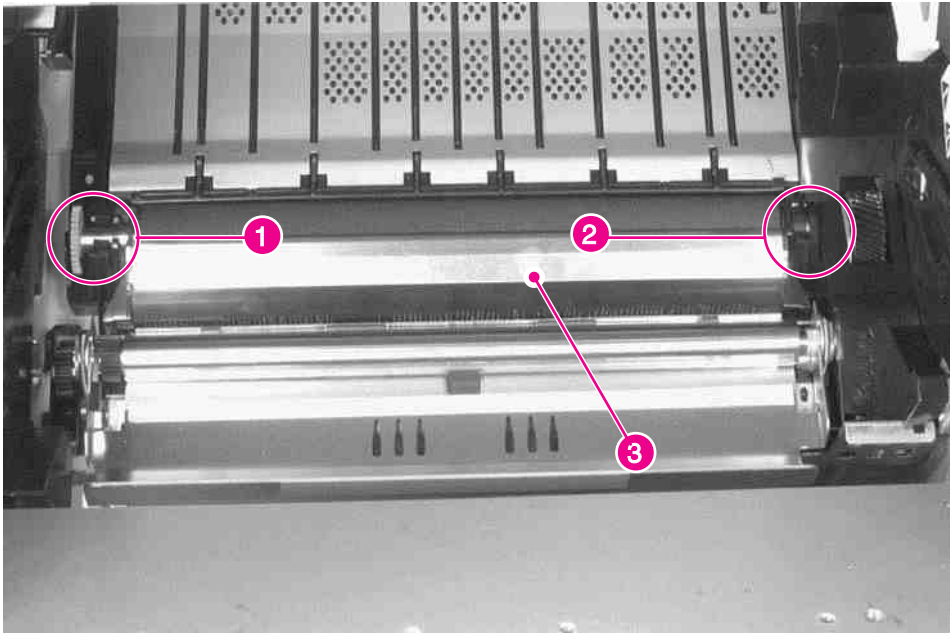

Figure 6-60 **Transfer Roller Assembly**
- 2 Grasp the gear (figure 6-60, callout 1) on the left end, and carefully lift upward just enough to clear the retainer clip.
- 3 Slide the Transfer Roller Assembly to the left to release the shaft on the right end (figure 6-60, callout 2).
- 2** Hold the Transfer Roller wiper up (figure 6-60, callout 3) and slide the assembly to the right until the gear on the left end is in position.
- 4** Press the Transfer Roller wiper down (figure 6-60, callout 3) until the retaining clips snap into place.